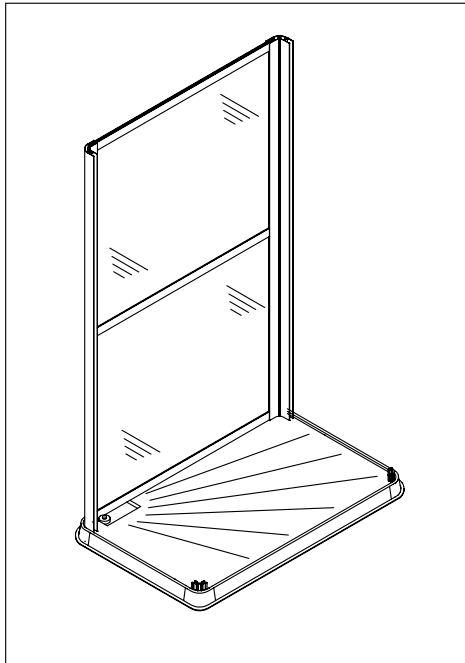

Fig 4.3
4. Fig 4.3 Slide in the second corner section. This section seat fixing plate (with 4 holdes) and is blank i.e without any door adjusting slots. Tighten the section with the allen key supplied.